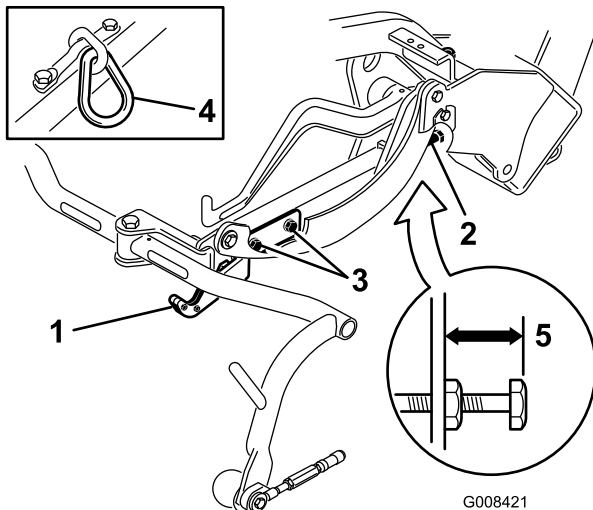
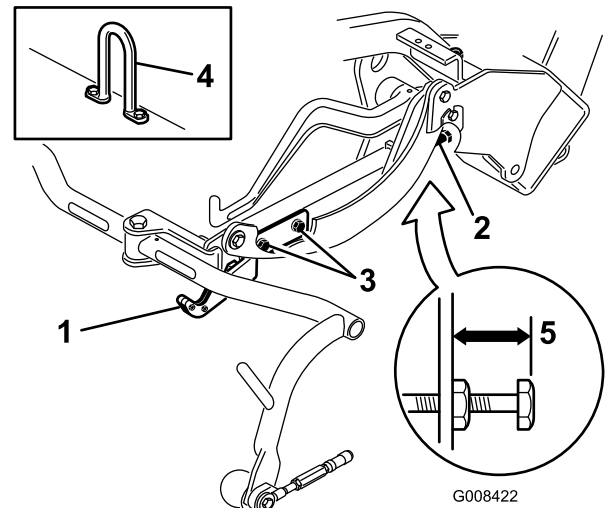
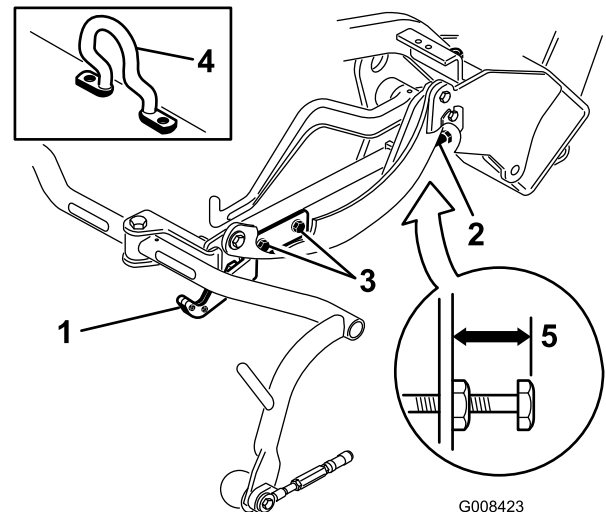

Figure 19
Figure 20
Figure 21
Check the transport height (Figure 19 & Figure 20) and adjust, if required.
2. On cutting units equipped with a chain link or a straight lift hook (Figure 19 & Figure 20, insets) verify that the distance from the top of the carrier frame adjusting screw to the back of the carrier frame is 7/8 inch (22 mm). If the distance is not 7/8 inch (22 mm), proceed to step 4. If the cutting unit is equipped with an offset lift link (Figure 21), proceed to the next step.
3. On cutting units equipped with an offset lift hook (Figure 21, inset) verify that the distance from the top of the carrier frame adjusting screw to the back of the carrier frame is 1 inch (25 mm). If the distance is not 1 inch (22 mm), proceed to step 4.
4. Loosen the transport plate mounting screws (Figure 19, Figure 20 and Figure 21).
7. If the carrier frames are not at the same height, loosen the jam nut on the carrier frame adjusting screw (Figure 19, Figure 20 and Figure 21). Rotate the screw outward to raise and inward to lower. Tighten the jam nut after the proper height is obtained.